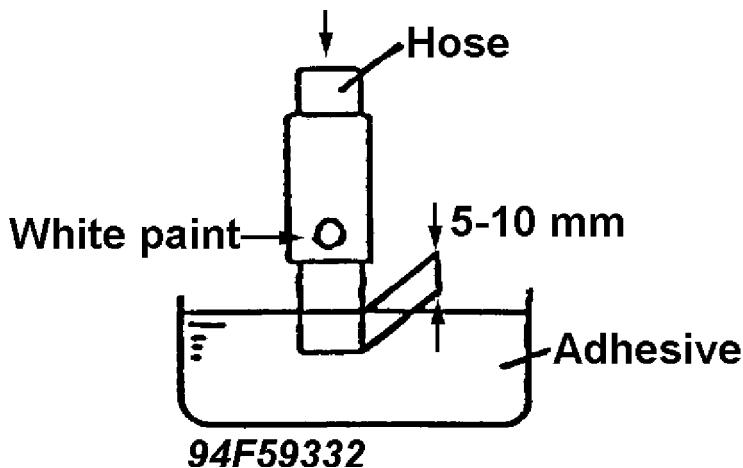

Fig. 53: Installing Hose on Inlet Side of Primary Fuel Distributor Submerging Hose End with White Mark into Adhesive
- 27-1. Install the hose on the inlet side of the primary fuel distributor. See Fig. 53.